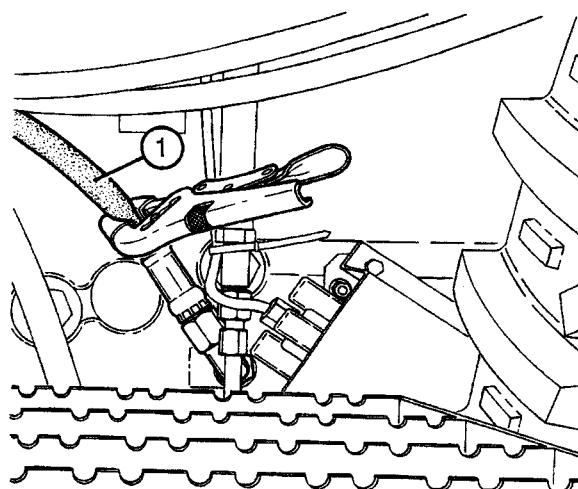

Fig. 12
4. Correctly identify the return hose (1) located to the front left-hand side of the gearbox and block it with a clamp and suitable protection (Fig. 12).
2. Using suitable protection, clamp the return hose (1) (see procedure 4 and Fig. 12, part G).